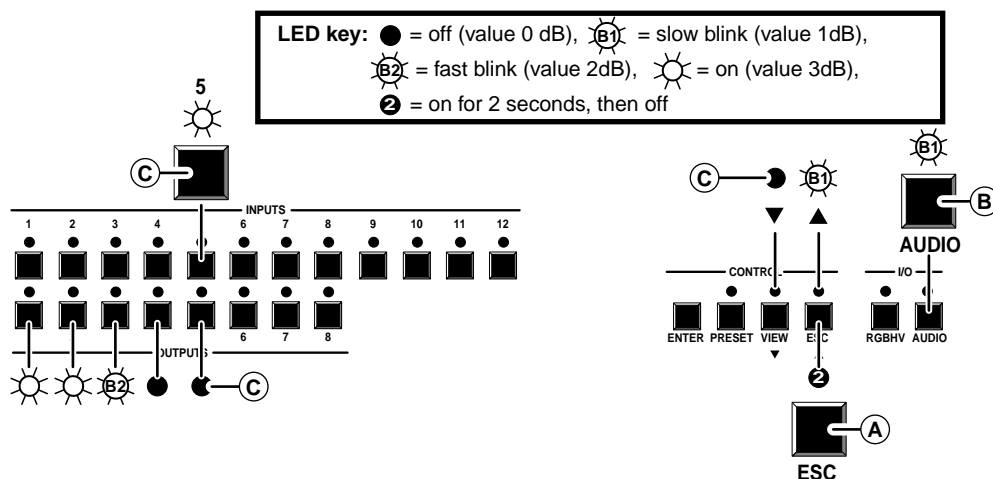
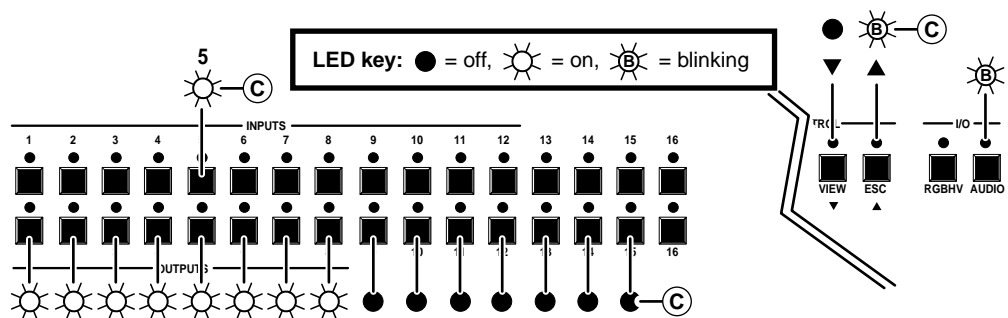
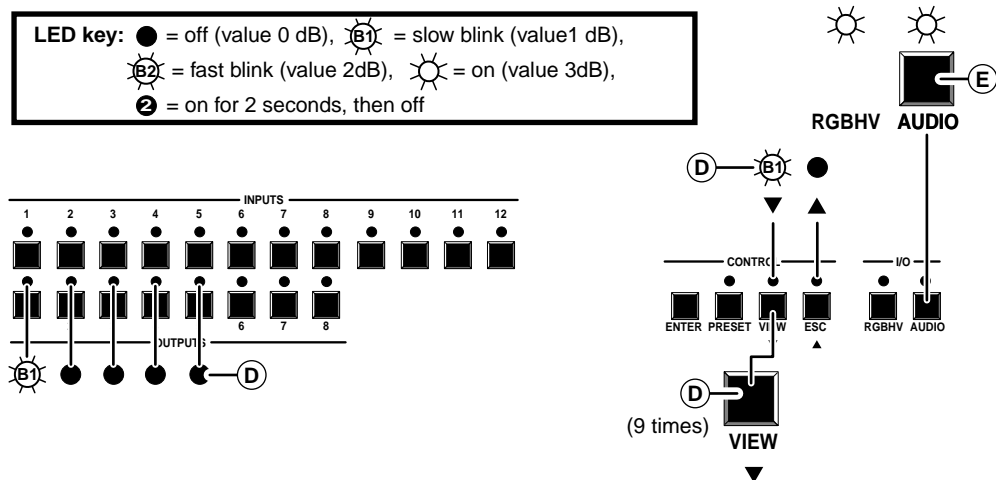
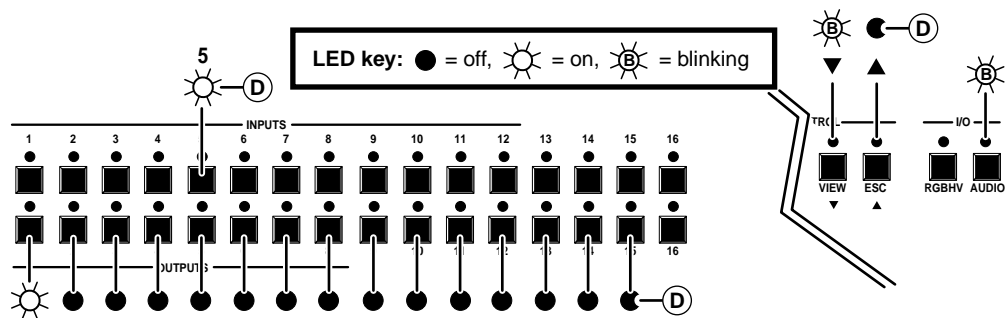

Figure 29 — Example 7: Viewing the audio level, CrossPoint 84, 88, 124, and 128
Figure 30 — +8dB displayed, CrossPoint 168 and 1616
Figure 31 — Example 7d: Adjusting the audio level, CrossPoint 84, 88, 124, and 128
Figure 32 — -1dB displayed, CrossPoint 168 and CrossPoint 1616
Refer to figure 29, figure 31, and the following steps for an example of viewing and adjusting the audio level. Audio gain and attenuation is displayed differently on the CrossPoint 168 and 1616, but the steps for displaying the value are the same. For this reason, figure 30 and figure 32 show the indications displayed on the CrossPoint 168 and 1616 without duplicating all of the actions shown in figure 29 and figure 31.
Figure 29 and figure 30 show an audio level of +8dB displayed in the output LEDs on the two different CrossPoint front panels.
- (D) Press and release the View (▼) button once to decrease the audio level displayed in the output LEDs by 1dB. Press and release the View (▼) button several more times to decrease the audio level displayed in the output LEDs by an additional 1dB per button push. Note the output LED, View LED, and Esc LED changes that occur each time the View (▼) LED is pressed and released. Figure 31 and figure 32 show the result of pressing the View (▼) button a total of 9 times. Both figures show an audio level of -1dB. Note that